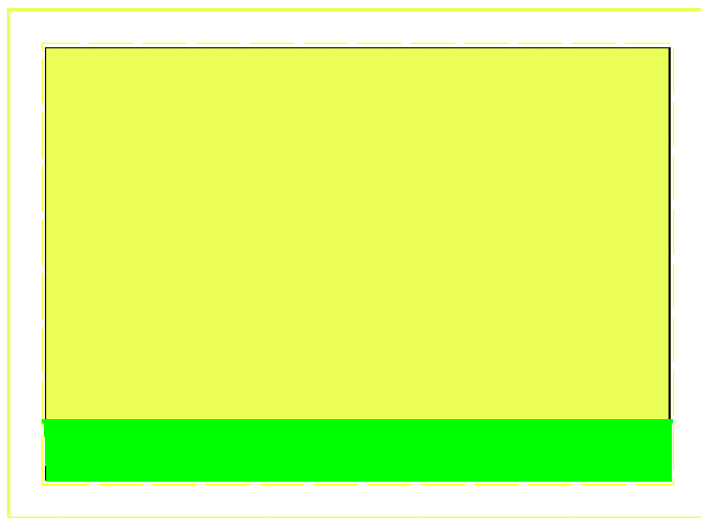

Figure 4-99
44. Select *Modify/Select/Window* and place a window that completely encompasses the whole bottom divided section of the template. This should include the legends. See Figure 4-99.